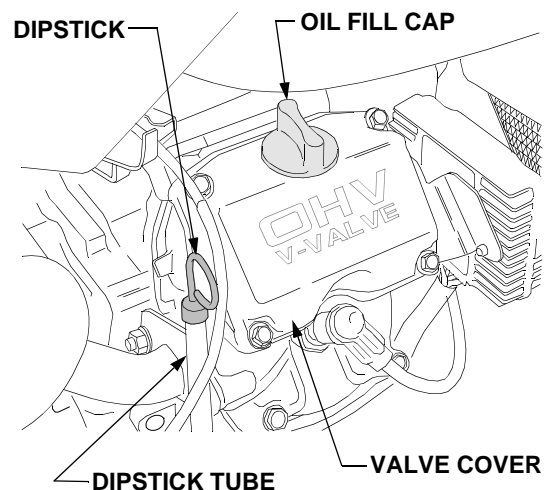

Figure 54
- Check the oil level only while the engine is stopped and the tractor is level. Clean the area around the oil level dipstick to prevent debris from entering the crankcase. See Figure 54.
- To check the oil level, withdraw the dipstick and wipe it clean; then insert the dipstick all the way into the tube before withdrawing it for a true reading. See Figure 54.
- Clean the area around the oil filler cap to prevent debris from entering the crankcase. Refer to Figure 54.
- Remove the dipstick and oil fill cap from the engine. Refer to Figure 54.